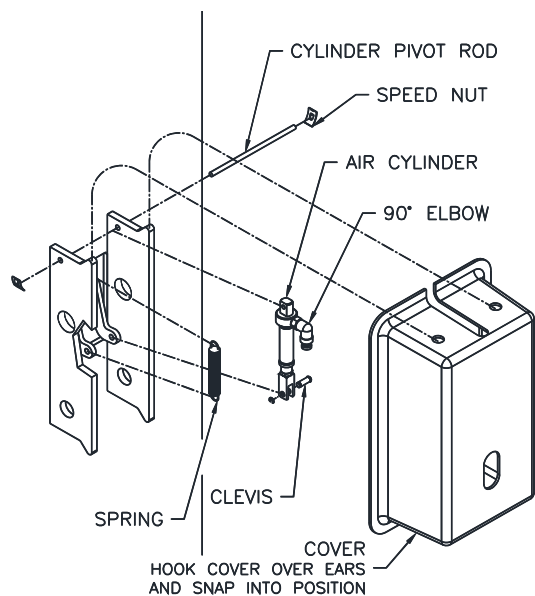

Fig. 4 – Locking Pawl Assembly
- 13) Install the locking pawl, actuator, and spring (**Fig. 4**). Adjust air cylinder clevis to retract lock against inside of back of column when air cylinder is fully extended. Tighten air cylinder clevis jam nut against clevis.